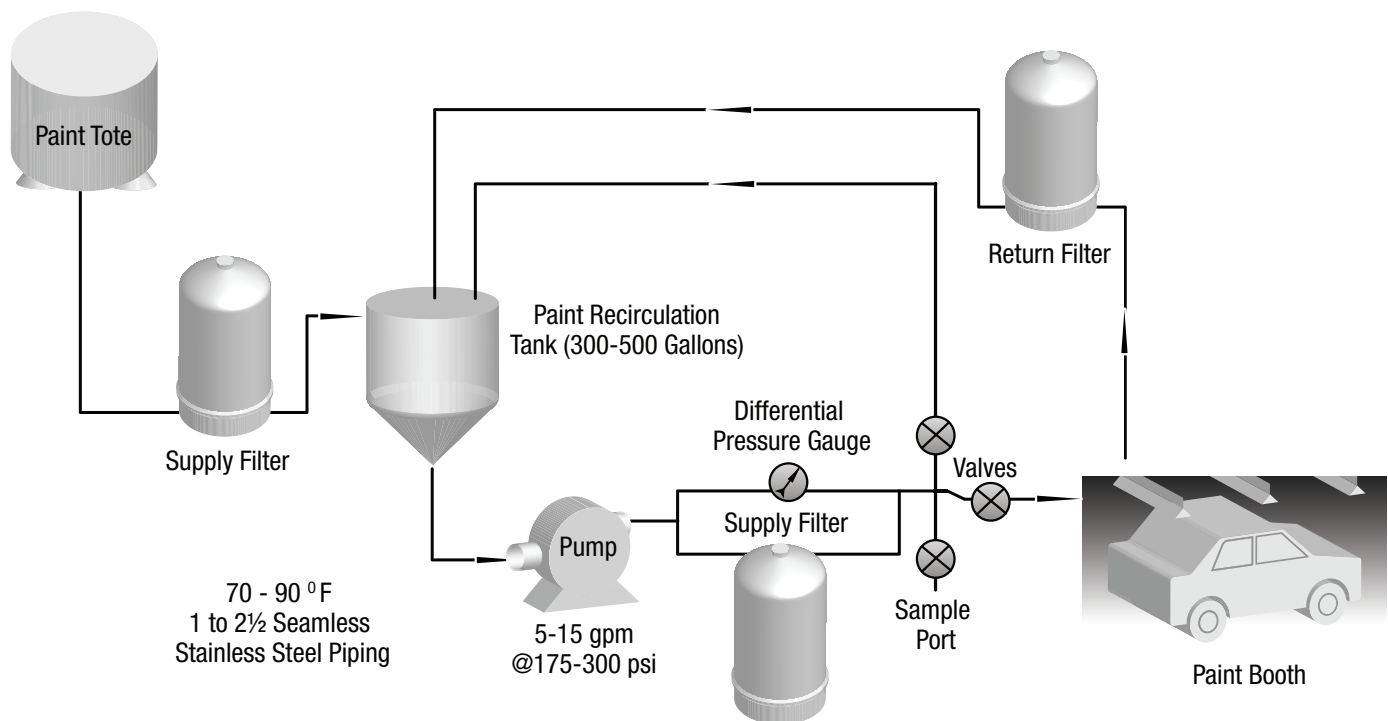

Figure 1. Typical Filtration System Schematic
The process begins with a thorough washing of the vehicle body followed by a multiple layer painting process consisting of an electrodeposition (ED) protective dip coating, a primer or anti-chip layer, a base coat (metallic or solid color), and the final clear protective coat. Contaminants present in any of the layers compromise finish quality and often result in costly rework of the defective area. Figure 1 below is a schematic of a typical base coat filtration process.